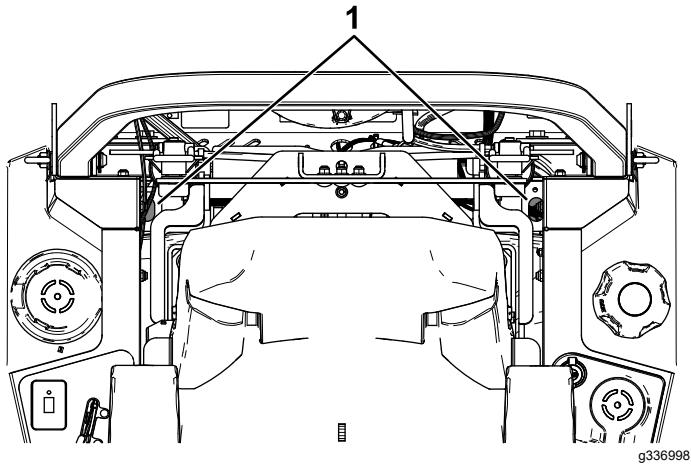

Figure 72
4. Using an extension and 7/16-inch socket, access the vent plug from the top of the machine through the holes near the roll-bar mounts (Figure 72).